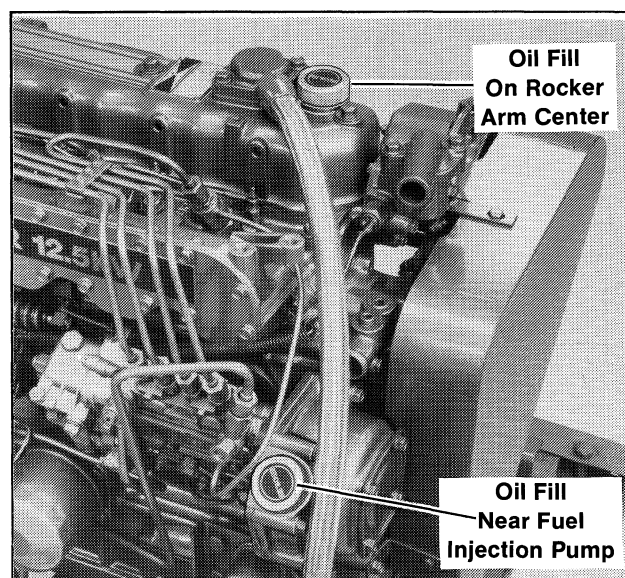

Figure 3-6. Oil Fill Locations- Yanmar
2. Remove oil fill cap. One is located on the rocker arm cover and one is located near the fuel injection pump. See Figure 3-6.